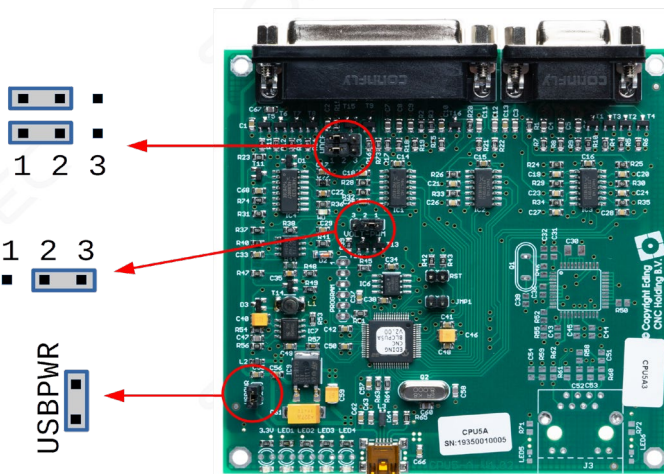

Fig. 9: Jumper-Setting Eding V5A
- The jumpers on the V5A board must be set as shown in Figure 9.